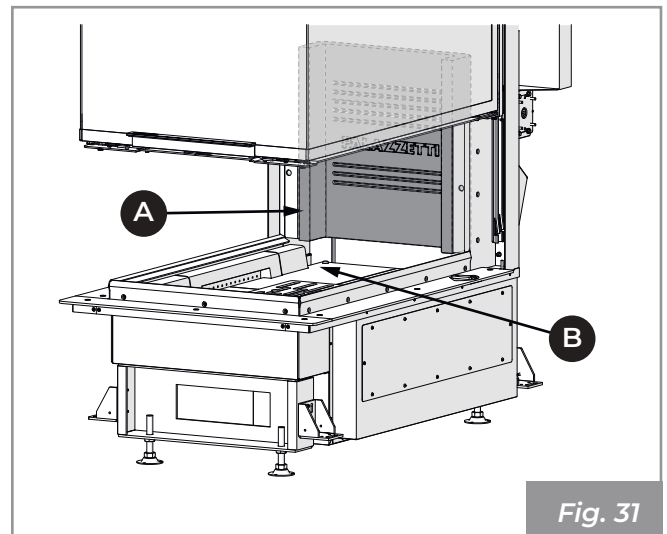

Fig. 31
- 1) Place the refractory back plate (A) on the Econoblocco wall and gently slide it into position, centring it with the protuberances (B) present in the refractory brick base (Fig. 31).